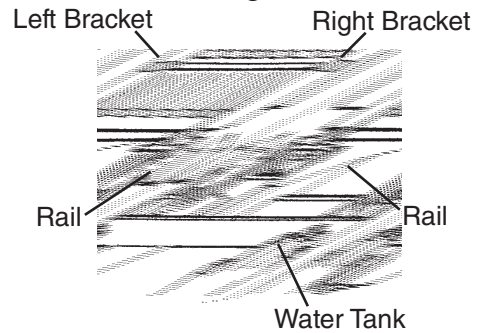

Fig. 45
14) Slide in the water tank along the rails at the bottom of the left and right brackets until it locks into place. See Fig. 45.